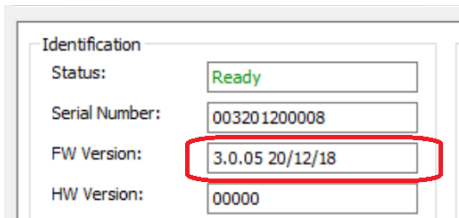

Figure 4
13. Click Program (figure 4 below) to start FW update.